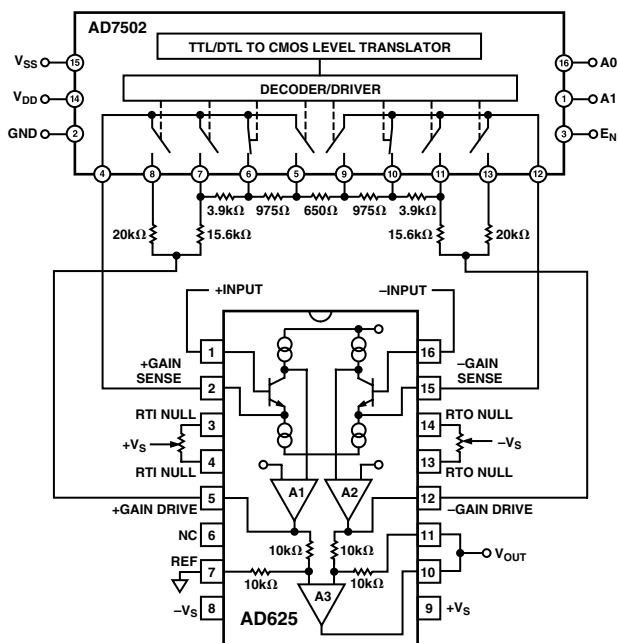

Figure 38. SPGA in a Gain of 16
Figure 38 shows an AD625 based SPGA with possible gains of 1, 4, 16, 64. R_G equals the resistance between the gain sense lines (Pins 2 and 15) of the AD625. In Figure 38, R_G equals the sum of the two 975 Ω resistors and the 650 Ω resistor, or 2600 Ω. R_F equals the resistance between the gain sense and the gain drive pins (Pins 12 and 15, or Pins 2 and 5), that is R_F equals the 15.6 kΩ resistor plus the 3.9 kΩ resistor, or 19.5 kΩ. The gain, therefore equals:
can be used to calculate the necessary feedback resistors for any set of gains. This formula yields a network with a total resistance of 40 kΩ. A dummy variable (j) serves as a counter to keep a running total of the preceding feedback resistors. To illustrate how the formula can be applied, an example similar to the calculation used for the resistor network in Figure 38 is examined below.
- 2) Before making any calculations it is advised to draw a resistor network similar to the network in Figure 41. The network will have $(2 \times M) + 1$ resistors, where M = number of gains. For Figure 38 M = 3 (4, 16, 64), therefore, the resistor string will have seven resistors (plus the two 20 kΩ “side” resistors for unity gain).
- 5) If different resistor values are desired, all the resistors in the network can be scaled by some convenient factor. However, raising the impedance will increase the RTO errors, lowering the total network resistance below 20 kΩ can result in amplifier instability. More information on this phenomenon is given in the RPGA section of the data sheet. The scale factor will not affect the unity gain feedback resistors. The resistor network in Figure 38 has a scaling factor of $650/625 = 1.04$, if this factor is used on R_{F_1} , R_{F_2} , R_{F_3} , and R_G , then the resistor values will match exactly.